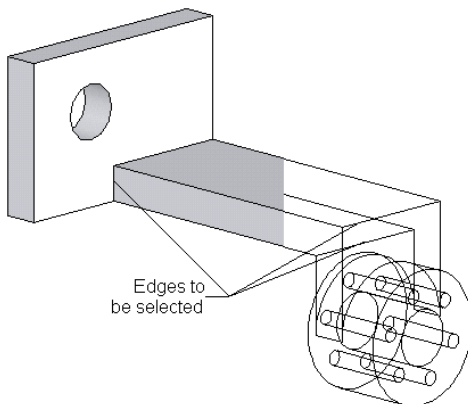

Figure 7-70 Edges to be selected
- g. Create a fillet feature to add the required fillets, refer to Figures 7-70 and 7-71.
3. Select the edges to fillet as shown in Figure 7-70. As the **Multiple radius fillet** check box is selected, therefore, each selected edge is having a separate radius callout.